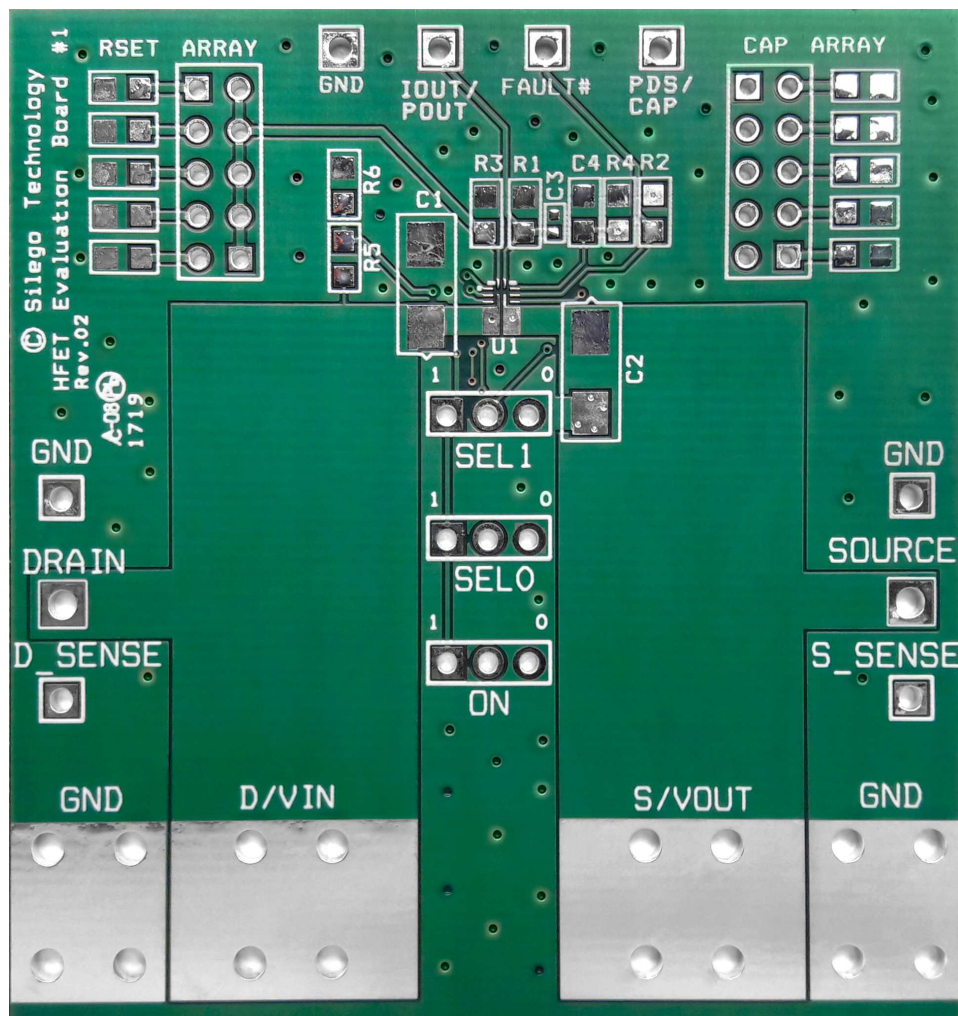

Figure 10. SLG59H1120V Evaluation Board
1. Since the VIN and VOUT pins dissipate most of the heat generated during high-load current operation, it is highly recommended to make power traces as short, direct, and wide as possible. A good practice is to make power traces with an absolute minimum widths of 15 mils (0.381 mm) per Ampere. A representative layout, shown in Figure 10, illustrates proper techniques for heat to transfer as efficiently as possible out of the device;
A High Voltage GreenFET Evaluation Board for SLG59H1120V is designed according to the statements above and is illustrated on Figure 10. Please note that evaluation board has D\_Sense and S\_Sense pads. They cannot carry high currents and dedicated only for  $R_{DS(ON)}$  evaluation.